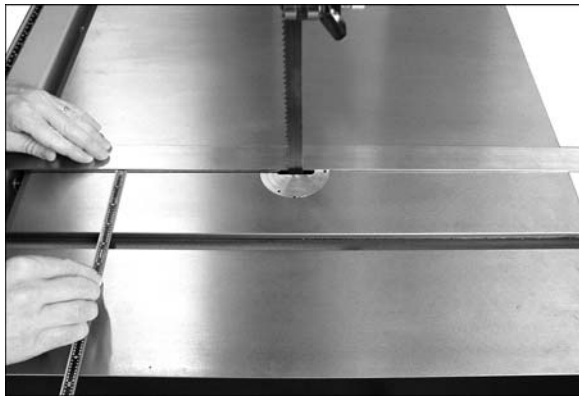

Figure 10
Refer to Figures 10 and 11.
4. Place a long straightedge flush against blade, making sure it contacts both front and back of blade. (Do not deflect blade by pushing into it.) See Figure 10.